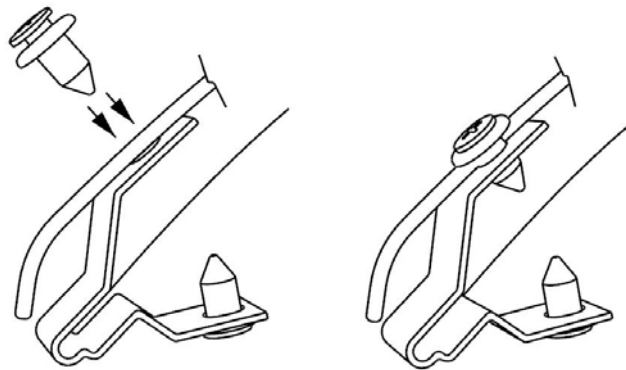

Fig 8
7. Install the hood deflector temporarily using the (4) push type retainer on the (4) metal mounting brackets to hold the hood deflector in position. (Fig 8)